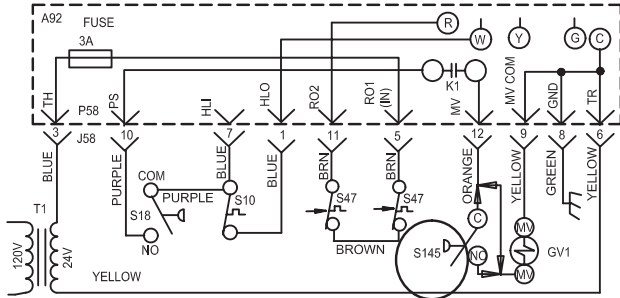

FIGURE 5
- 11 - Thread pressure switch (S145) to fitting 2 to 3 turns past hand tight, then wire as shown in figure 5.